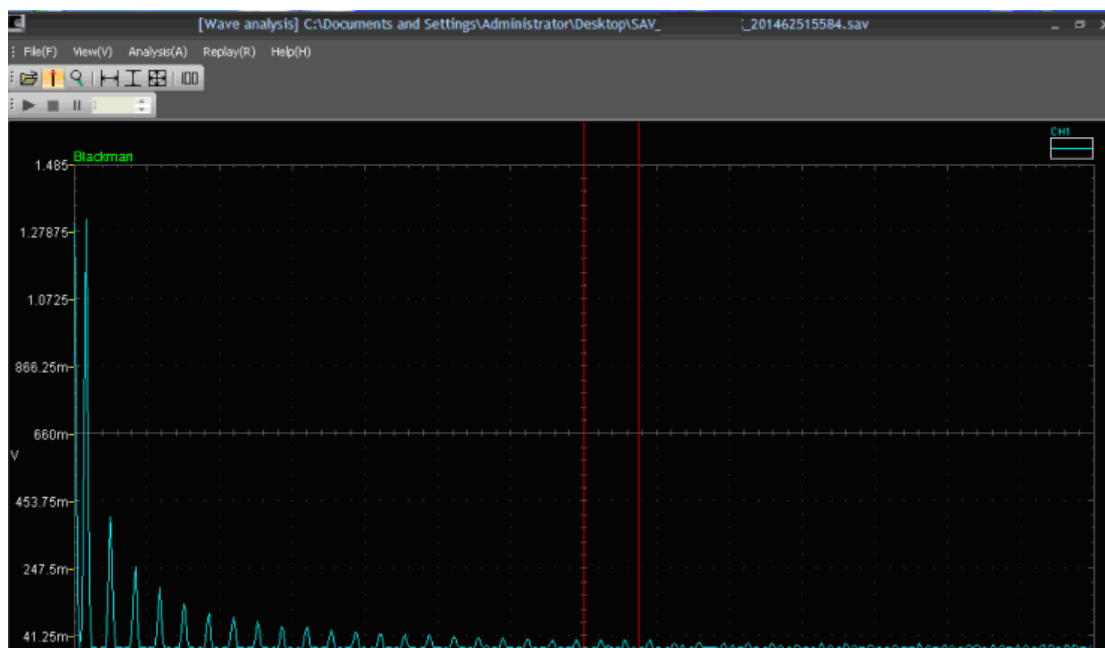

Fig.4-9
After an appropriate window function is chosen, click OK. The original waveform data will be then transformed into FFT waveform data. See Fig.4-9.
c. Choose Analyze and Filter in order in the menu, choose Band in the filter type column in the filter parameter setup dialog box, set the upper frequency limit and the lower frequency limit to be 10KHz and 100Hz, respectively, and click OK. See Fig.4-9.